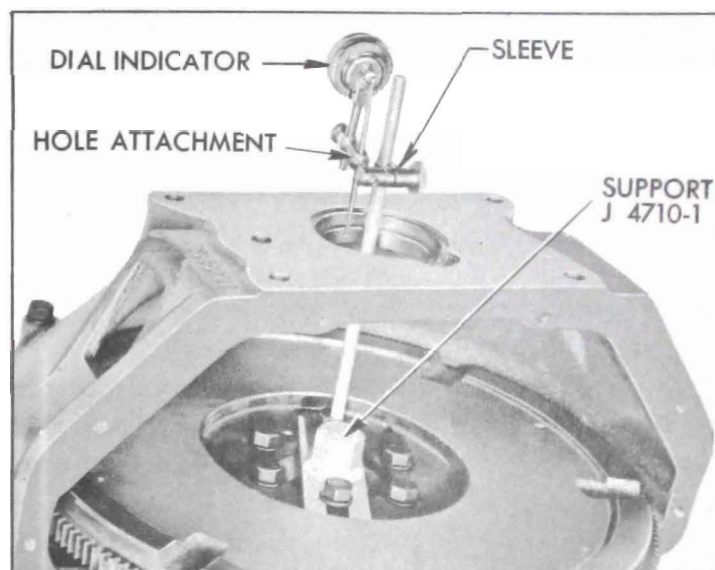

Figure 4-16—Checking Alignment of Housing at Pilot Hole
2. Attach Indicator Support J 4710-1 to flywheel with two flywheel bolts. Mount dial indicator and hole attachment on pilot as shown in figure 4-16. Adjust ball end of hole attachment to bear against side of pilot hole in flywheel housing.
4. Install dial indicator as shown in figure 4-16, and check run-out at pilot hole in housing.